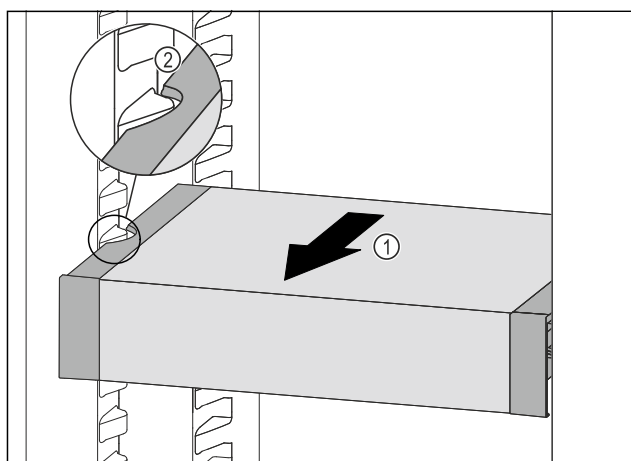

Fig. 136
- Pull VarioSafe forward *Fig. 136 (1)* until the recesses in the side of the VarioSafe are at the level of the support rib in the refrigerator compartment. *Fig. 136 (2)*